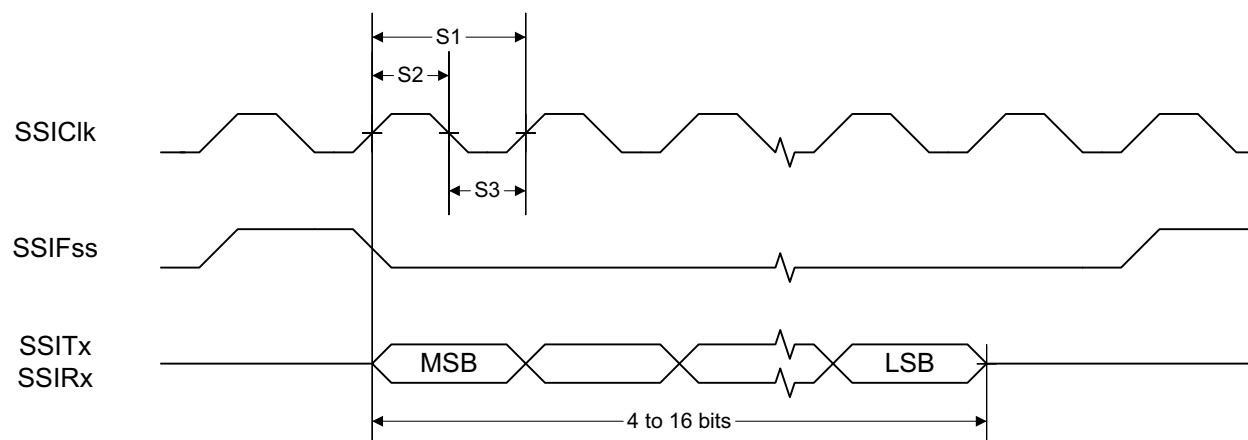
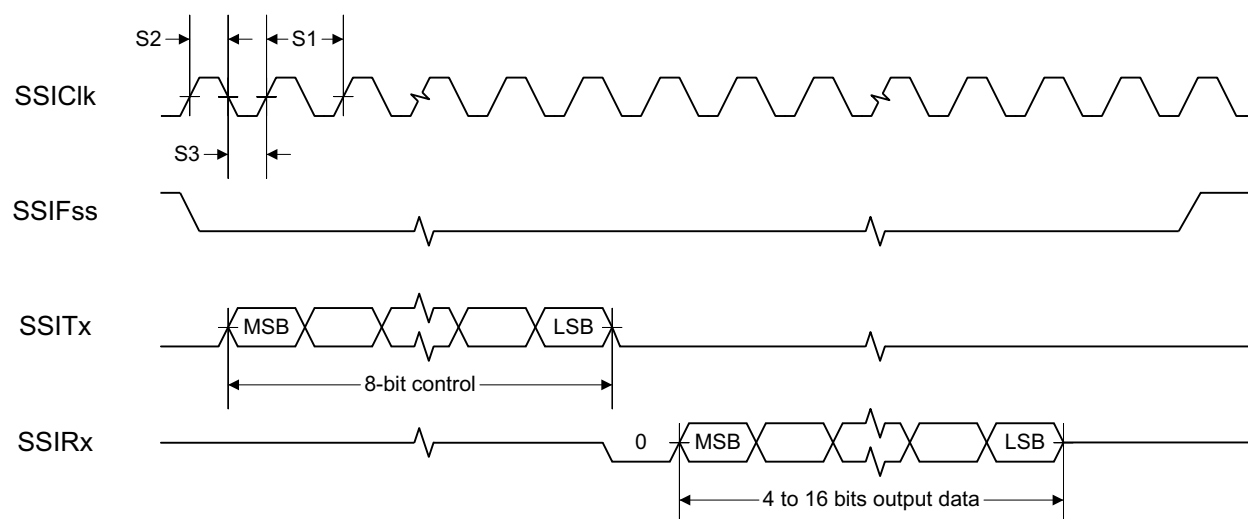
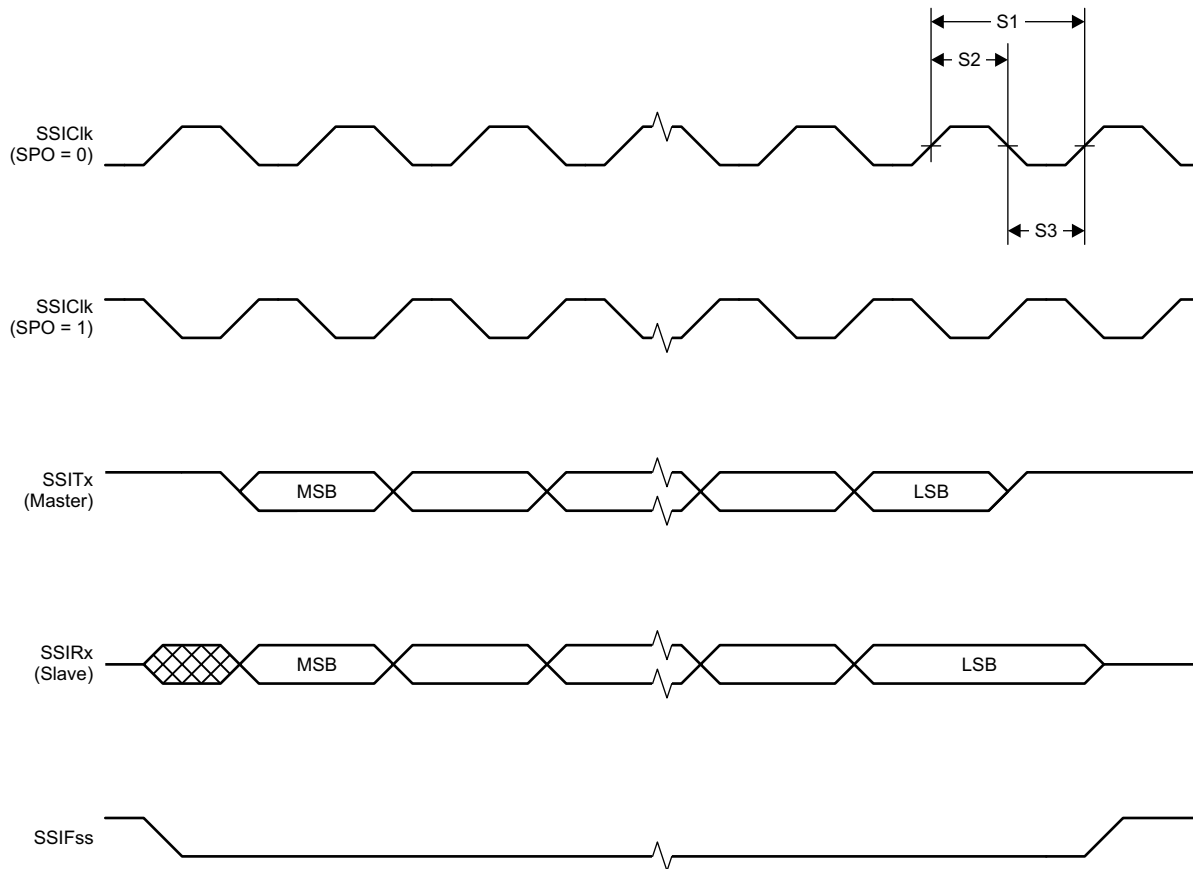

図 8-1. SSI Timing for TI Frame Format (FRF = 01), Single Transfer Timing Measurement
図 8-2. SSI Timing for MICROWIRE Frame Format (FRF = 10), Single Transfer
図 8-3. SSI Timing for SPI Frame Format (FRF = 00), With SPH = 1
(1) Refer to SSI timing diagrams 図 8-1, 図 8-2 and 図 8-3.
(2) When using the TI-provided Power driver, the SSI system clock is always 48 MHz.